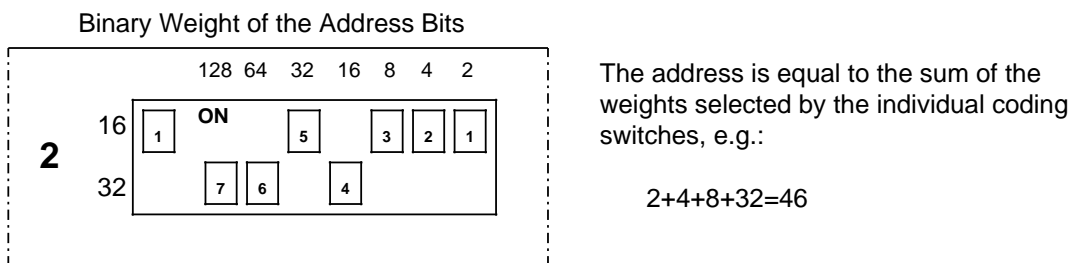

Figure 6-5. Setting a DIP Switch
- Set the address switches on the DIP switch for slot number 2 as shown in Figure 6-5.